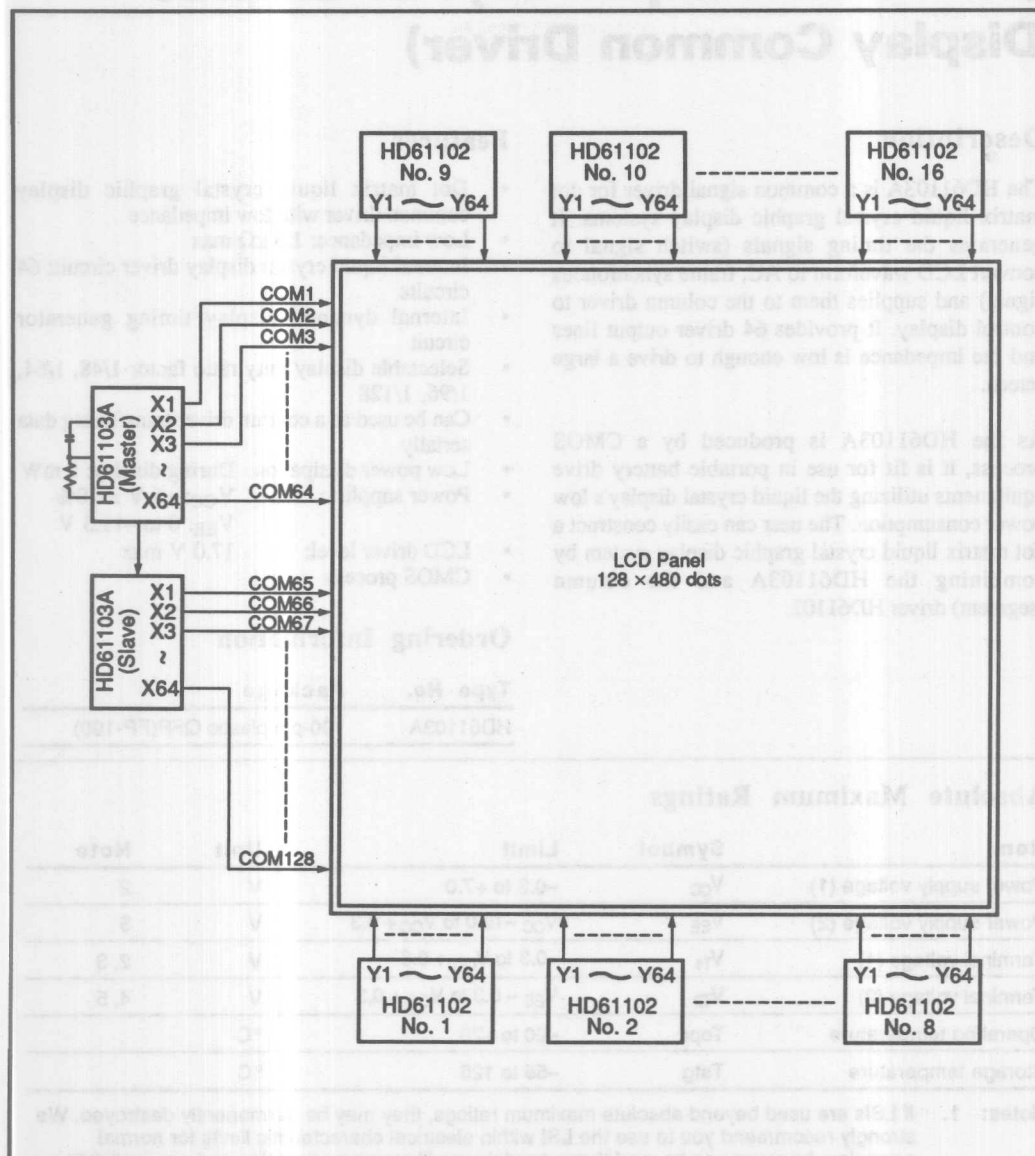

Figure 12 Application Example
**Note:** In this example (figure 12), two HD61103As output the equivalent waveforms. So, stand-alone operation is possible. In this case, connect COM1 and COM65 to X1, COM2 and COM66 to X2, ..., and COM64 and COM128 to X64. However, for the large screen display, it is better to drive in 2 rows as in this example to guarantee the display quality.